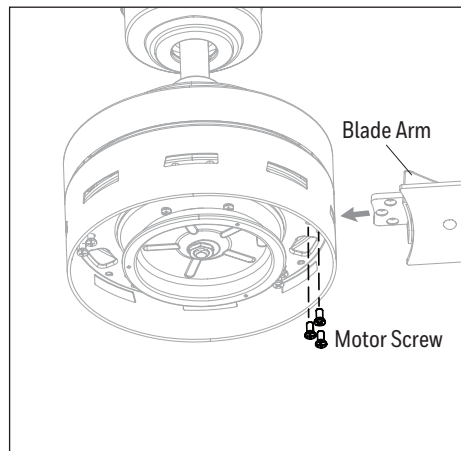

Figure 5.5
- Insert blade arm through slots in the side of the motor assembly. Align the holes of one blade arm with three motor screw holes in underside of the motor assembly. Secure with three motor screws. Repeat this step for the remaining blade arms (Figure 5.5).